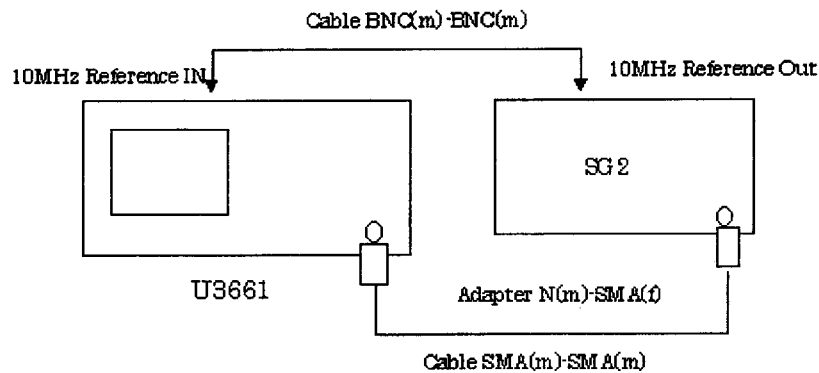

Figure 3-16 Setup of a Frequency Span Accuracy Test
1. Connect equipment as shown in Figure 3-16.